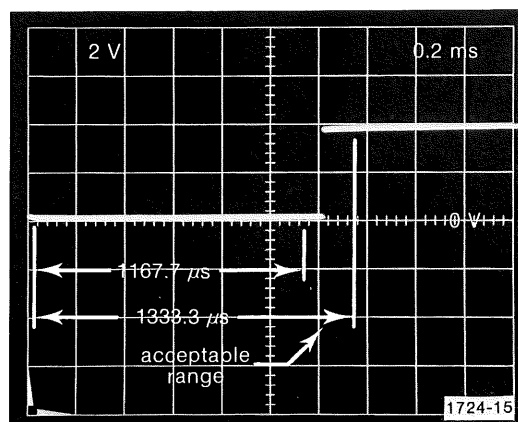

Figure 3-5. The Field (Also Called Vertical) Blanking Pulse as Seen at U655 Pin 9.
- a. Place the Sync Pulse Width Strap (Figure 3-2) in the 525/625 position. Place the Serration strap in the W/S position. Connect the signal on U655, Pin 9 (Figure 3-4) to the oscilloscope by means of a X10 probe. With the oscilloscope sweep set at 0.2 ms per cm, verify a field blanking pulse with a duration of from 1167.7 μ s to 1333.3 μ s (Figure 3-5).